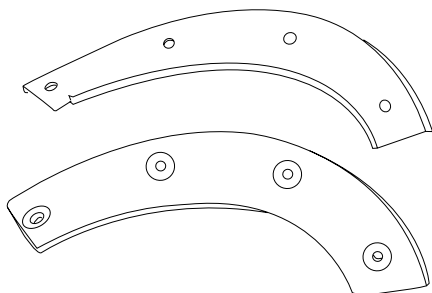

Figure 23
2. Loosen the middle 2 sets of nuts and bolts to change the worn rubber plate, assemble and tighten it on reverse step (Fig. 23).